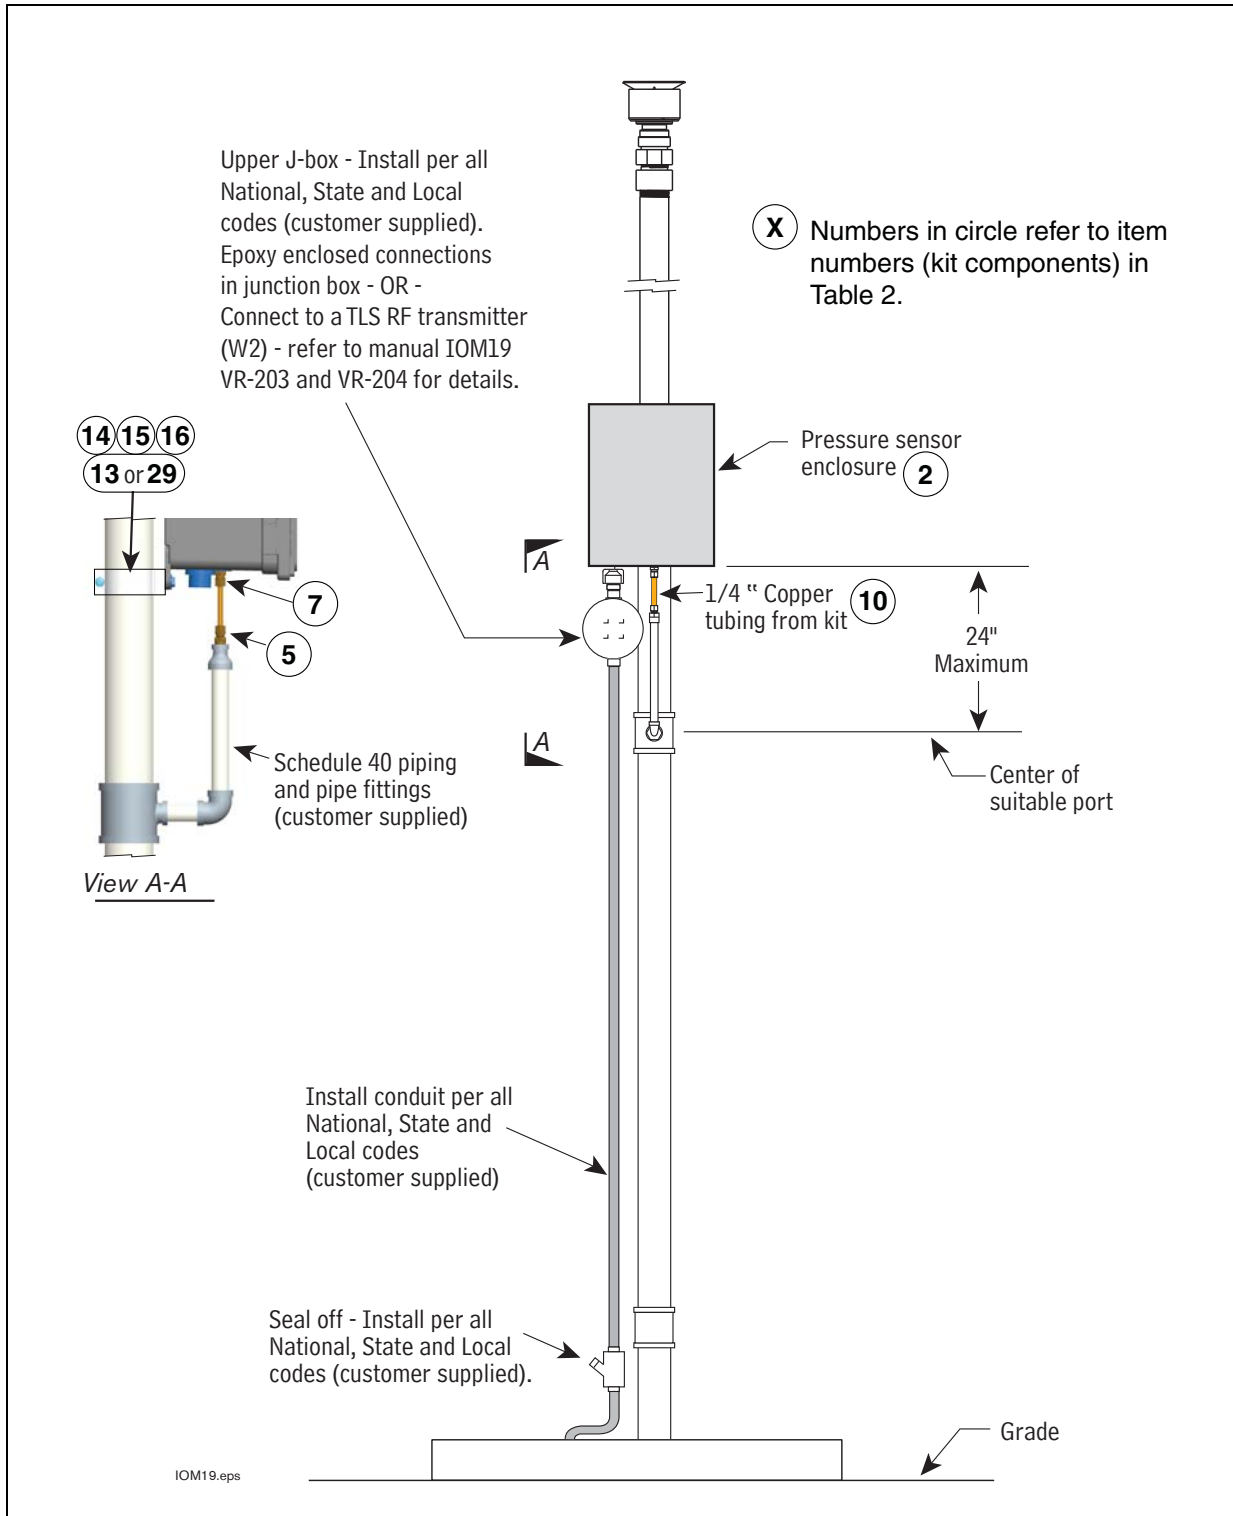

Figure 1. Locating Pressure Sensor Enclosure in Vapor Vent Stack
3. Locate a suitable port in an existing Schedule 40 piping fitting (tee, cross, etc.) or plumb a suitable Schedule 40 pipe fitting (tee, cross, etc.) into the vapor vent stack line (maximum length of copper tubing limited by dimension in Figure 1).
17. Mount the plastic enclosure onto the vapor vent stack or suitable rigid structure ABOVE the vapor vent stack port using two conduit clamps (for 2" or 3" pipe), bolts, nuts, and washers included, or use other customer supplied suitable mounting hardware (Example: Unistrut®). Leave the mounting hardware somewhat loose for later enclosure height adjustment (see Figure 1).
19. Install one 68CA-4-4 male connector (item 1 in Table 3) onto the top of the new pipe (see View A-A, Figure 1).
20. Measure, fabricate, and install ¼" OD copper tubing (item 6 in Table 3) between the bulkhead union and the male connector. Adjust the enclosure vertically on vent pipe to make sure the copper tube is fully inserted into the bulk head union and male connector.
24. When direct wiring to a TLS console, install ½" electrical conduit from the conduit hub in the bottom of the enclosure to the customer supplied weather-proof junction box (see Figure 1). For wireless installations, using the TLS RF, Steps 24 - 27 are not required.
25. Route the cable from the pressure sensor to the junction box under the enclosure. Observing polarity, connect the sensor wiring to the field wiring from console and cap with wire nuts (see Figure 1).